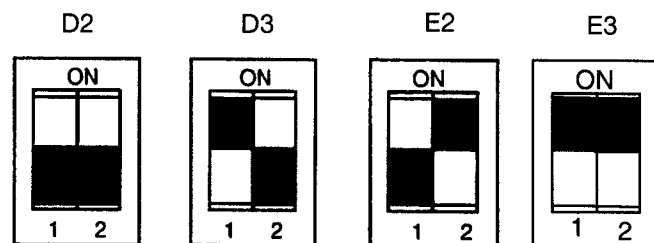

Figure 7
5. Set system selector switches as shown in Figure 7.